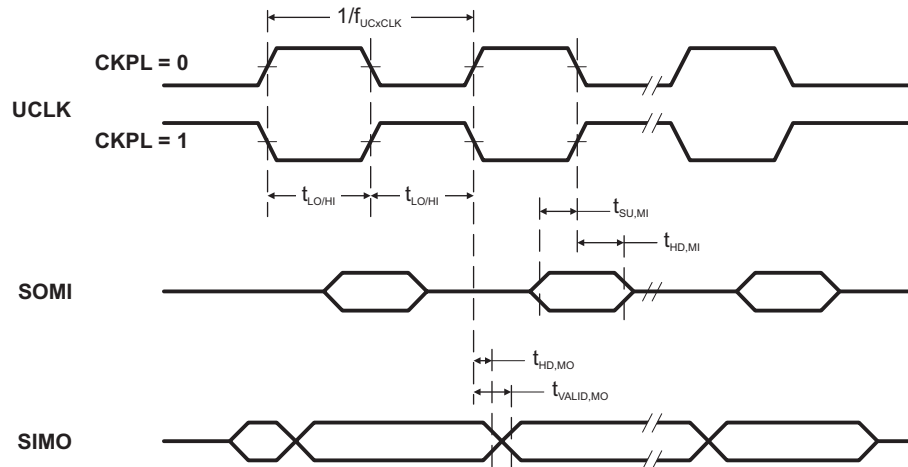
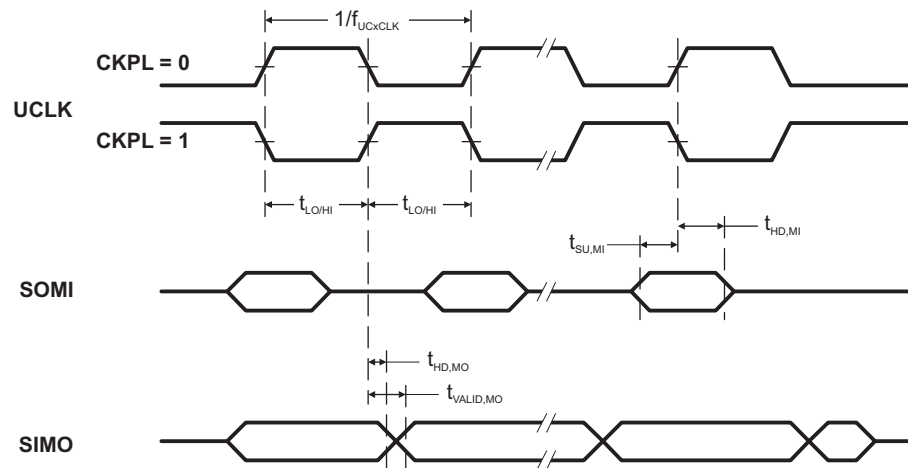

Figure 17. SPI Master Mode, CKPH = 0
Figure 18. SPI Master Mode, CKPH = 1
(see Note ⁽¹⁾, Figure 17 and Figure 18)
- (2) Specifies the time to drive the next valid data to the SIMO output after the output changing UCLK clock edge. See the timing diagrams in Figure 17 and Figure 18.
- (3) Specifies how long data on the SIMO output is valid after the output changing UCLK clock edge. Negative values indicate that the data on the SIMO output can become invalid before the output changing clock edge observed on UCLK. See the timing diagrams in Figure 17 and Figure 18.
(2) Specifies the time to drive the next valid data to the SOMI output after the output changing UCLK clock edge. See the timing diagrams in Figure 17 and Figure 18.
(3) Specifies how long data on the SOMI output is valid after the output changing UCLK clock edge. See the timing diagrams in Figure 17 and Figure 18.